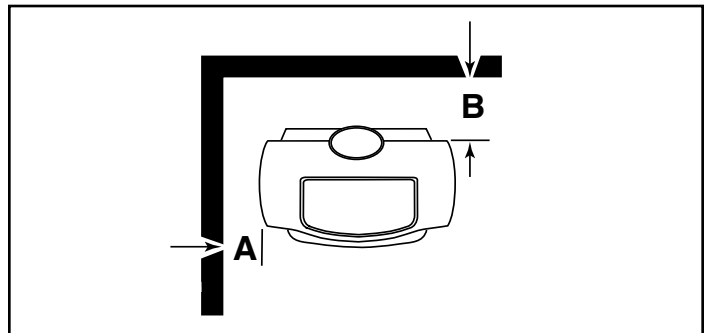

Figure 3.5 - Minimum clearances.
**Minimum rear clearance from combustible walls (e.g. timber framed or studded walls) 400 mm measured from the rear edge of the stove top. (Figure 3.5, B)**
**Minimum side clearance from combustible walls 400 mm measured from the side edge of the stove top. (Figure 3.5, A)**